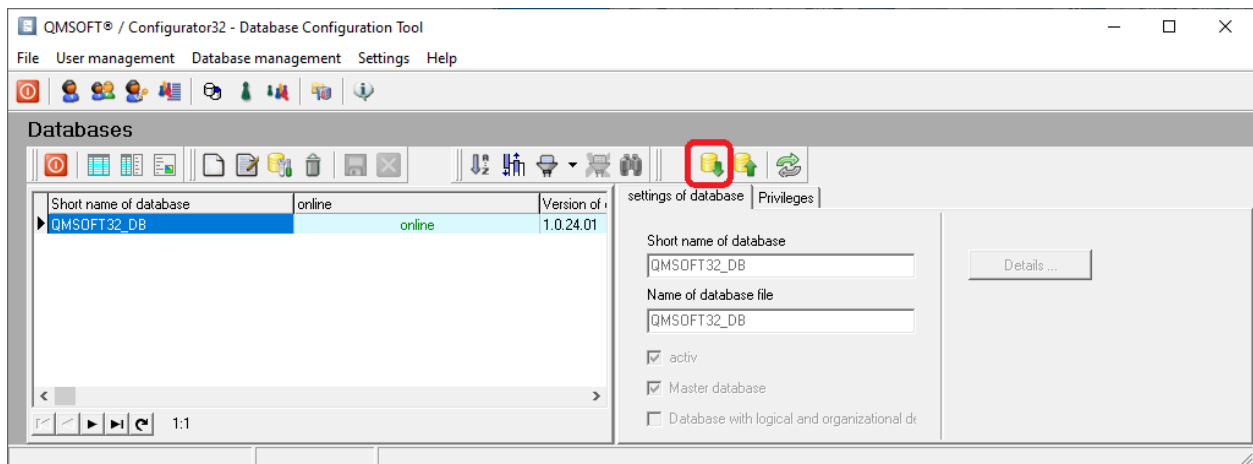

Fig. 3.1.5: Database management → Databases → Backup.
3) Open the menu *Database management* → *Databases* and start the *Backup* function [Fig. 3.1.5].